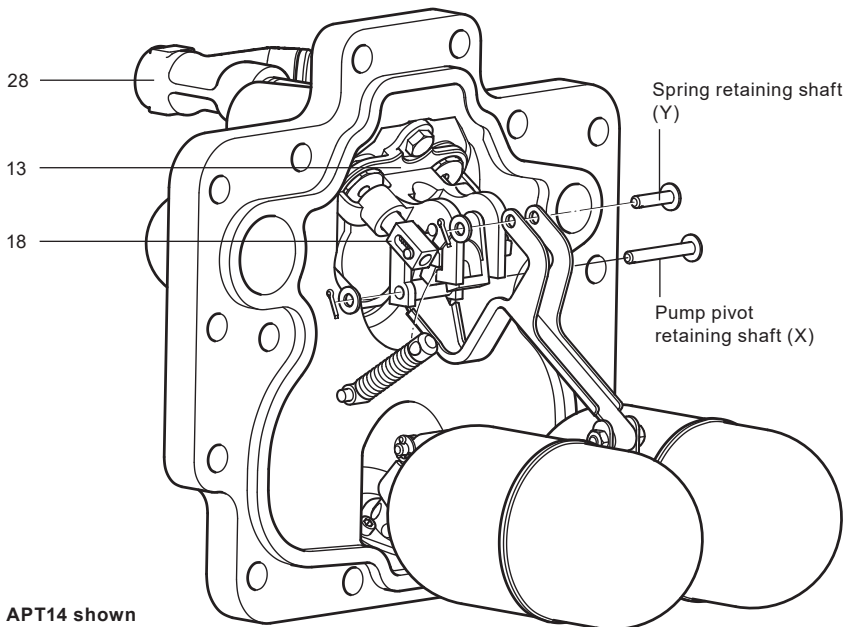

Fig. 22 APT14 shown
4. Remove split pins, washers, and shafts (X and Y) from the top spring pivot and pump pivot points (See Figure 22).
6. Draw the actuator arm with the exhaust valve downwards within its slots until it becomes free. It may be necessary to slide the exhaust valve (item 18) backwards against its internal spring to free it from the pump bracket guide (item 13), see Figure 22.
9. **Fitting the new spring assembly and actuator arm is the opposite to removal.** Remember to compress the small spring within the exhaust valve (item 18) before refitting to the spigot of the new actuator arm.
10. Ensure the actuator is correctly aligned and located within the slots of the pump bracket (item 13) (see Figure 22).
12. Always use new split pins and washers when refitting the spring retaining shaft (Y) and pump pivot shaft (X).
15. Carefully reconnect the motive steam supply and the exhaust lines to the connections marked (S) and (E). The APT14, APT14HC or APT14SHC is now ready to recommission.
16. Make sure that the Spirax Sarco motive supply strainer (with 100 mesh screen) is reinstated to the motive supply connection (item 28, Figure 22).